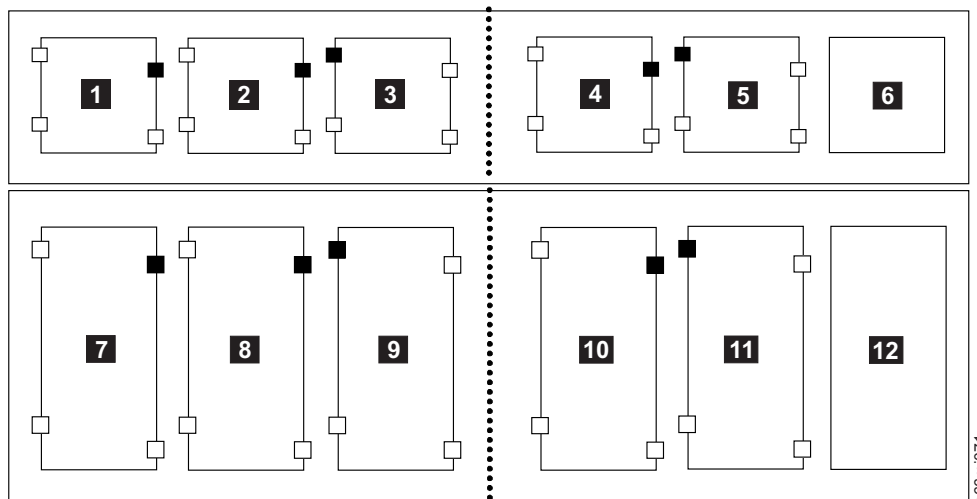

Figure 8-98. Correct fiducial placement
- a. Verify the correct position for the fiducial on the storage column by referring to the small black squares on the larger rectangles in Figure 8-98 on page 8-89.